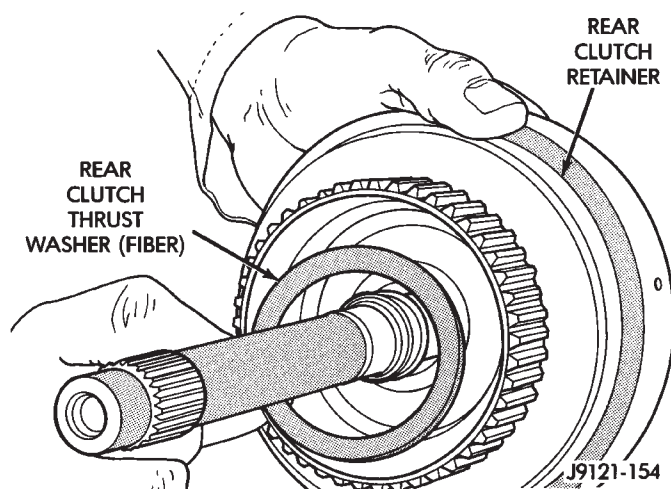

Fig. 155 Installing Rear Clutch Thrust Washer
(20) Check rear clutch thrust washer (Fig. 155). Use additional petroleum jelly to hold washer in place if necessary.